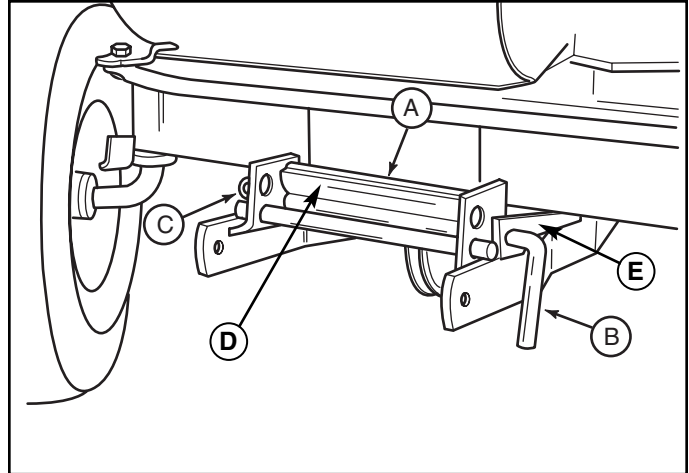

Figure 13. Installing Hitch to Front of Tractor
- See Figure 13. Turn the wheels fully left and lift the front hitch bar (A) up onto the tractor brackets (D). Make sure it is fully seated into the tractor brackets. Install the long hitch pin (B) through the bracket (bottom rear holes) and up-stop brackets (E). Secure it with the safety clip (C).